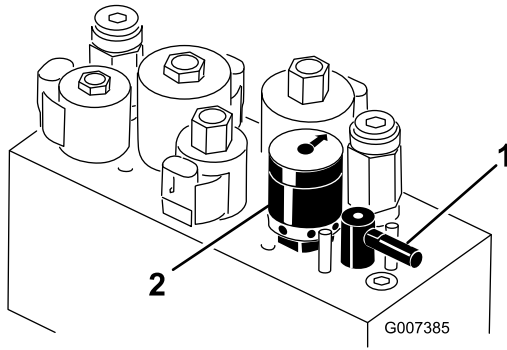

Figure 56
4. Rotate the backlap lever to the R position (Figure 56).
5. Rotate the reel-speed control to setting 1 (Figure 56).